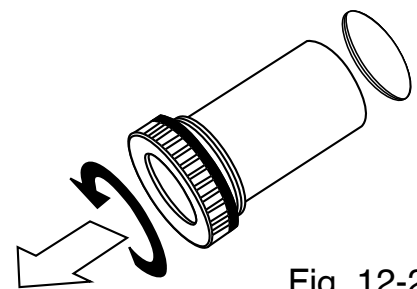

Fig. 12-2
- ① Unscrew the desiccant case from the main unit (Figure 12-2).